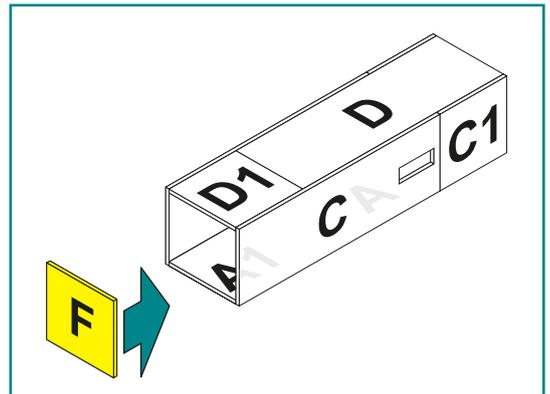

figure 10
2.2.9 Mount panel F to panels B and C. (figure 10)